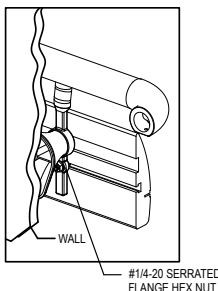

FIG. 6
- Attach wall guard returns and corners to the straight lengths using 1/4-20 x 3/4" hex head screws and nuts. See Figure 6.